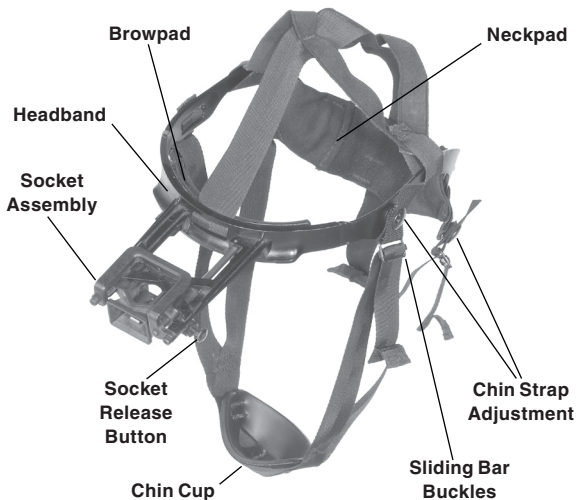

Figure 2-7. PVS-7 Head Mount Adjustments
1. Prior to donning the head mount, loosen the four chin straps so the ends of each strap arc approximately two inches from the sliding bar buckles (See Figure 2-7)
7. Readjust the vertical strap assembly (see Figure 2-7) for vertical adjustment of the head mount until the PVS-7 is properly aligned with your eyes.